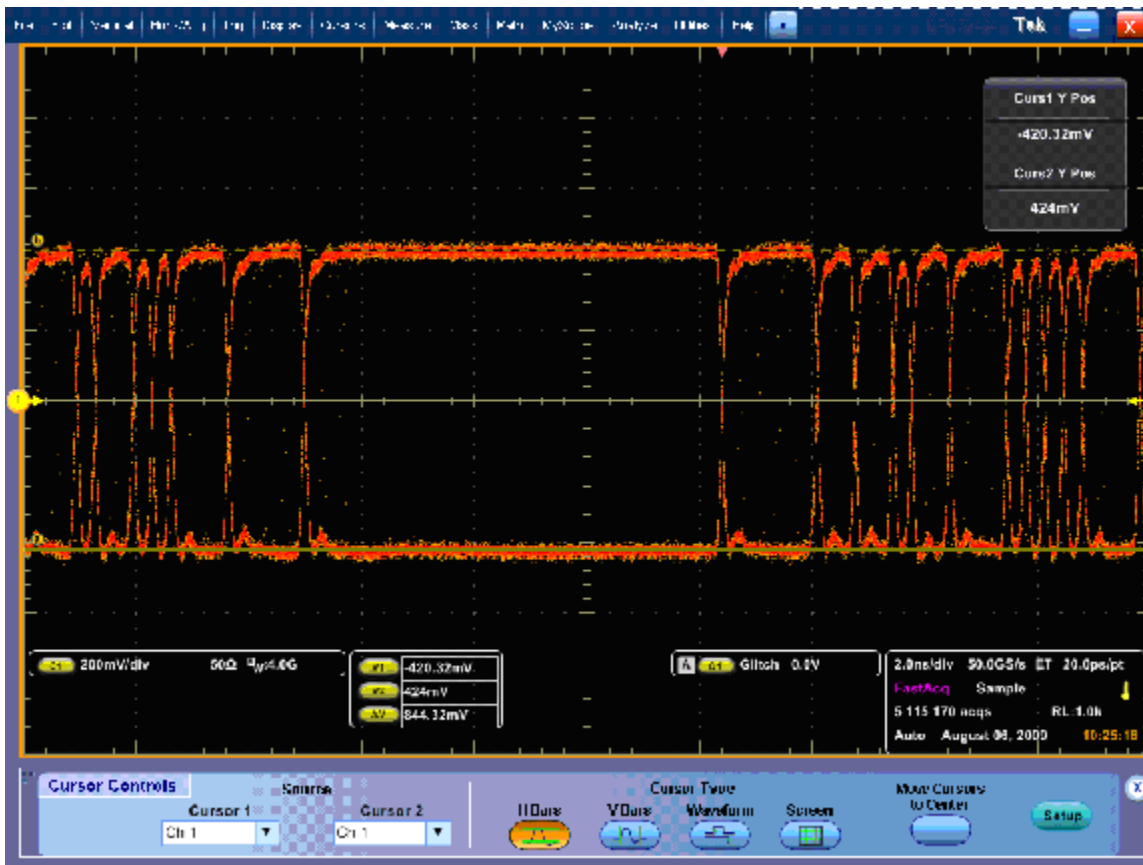

Figure 3: Serial Output at 3 Gb/s, using Glitch Trigger mode
11. Check the signal amplitude, using the 7 ns wide region without transitions. The amplitude should be very similar to that observed in step 4. Outside of the 7 ns region, check that the eye is open between transitions. (See Figure 3.)